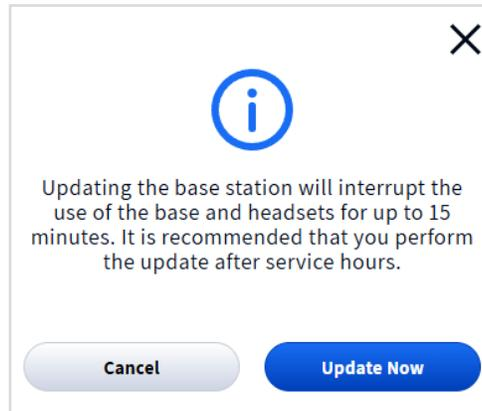

Fig. 6.7
5. A prompt appears (Fig. 6.7) informing you that the update will interrupt the use of the base station and headset and takes up to 15 minutes to update. Tap/click the Update Now button to continue. The update begins and provides a progress status. The red exclamation mark also disappears when the. Or, Cancel if you decide to update at another time, perhaps after hours or during slower business time.